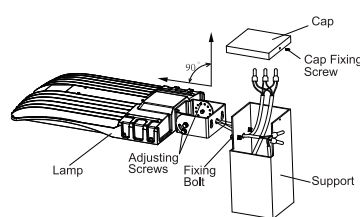

Figure 2
1. Loosen cap fixing screw and take cap off. Loosen fixing bolt, adjust the fixture on the support and then tighten fixing bolts. (Figure 2)
2. Let the AC wire go through the support hole and connect them correctly. Close the cap and tighten the cap fixing screw after the AC cable is well placed in the support. (Figure 2)
3. Loosen the adjusting screws. Align the fixture to the desired angle, & fasten the screws. (Figure 2)